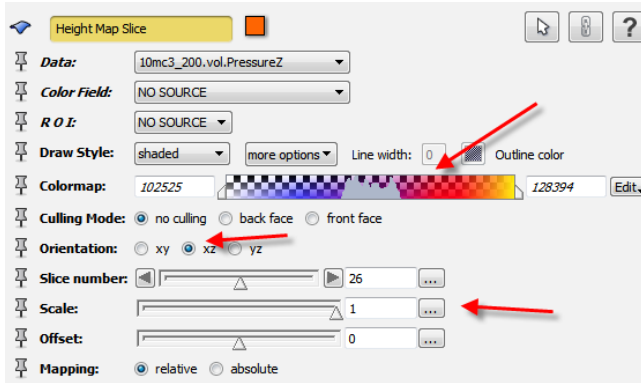

Figure 14.21: Modified parameters for *Height Map Slice* representing the pressure field in the experiment simulation are highlighted by red arrows.
- Configure the *Height Map Slice* as in Figure 14.21.